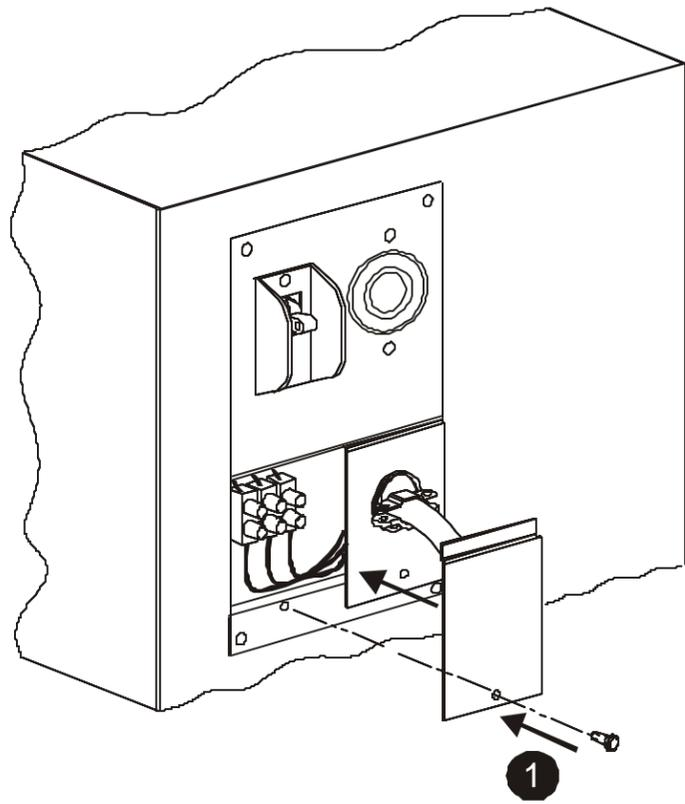

Figure 3.6 Install Access Panel
1. Install Access Panel as shown in Fig. 3.6